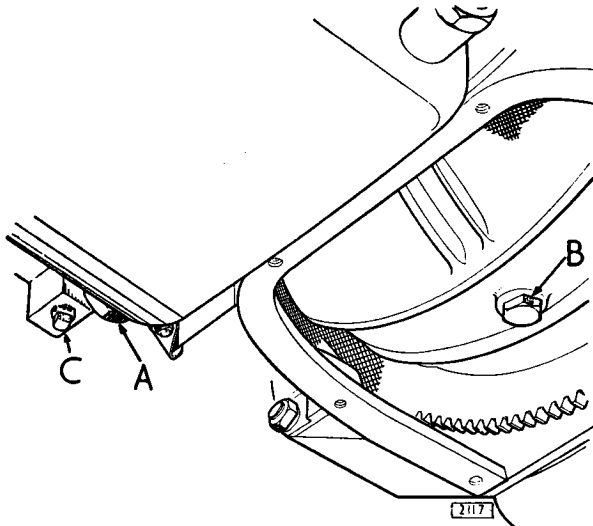

Fig. 33. Automatic transmission drain plug. (The converter housing cover plate has been removed).
4. Remove the transmission oil pan drain plug. (A, Fig. 33).
5. Remove the converter housing cover plate and rotate the converter until the drain plug is in position for draining. Remove the converter drain plug. (B).
6. To facilitate draining, remove the square-headed converter pressure take-off plug from the bottom of the housing attached to the left-hand side of the transmission casing (C).